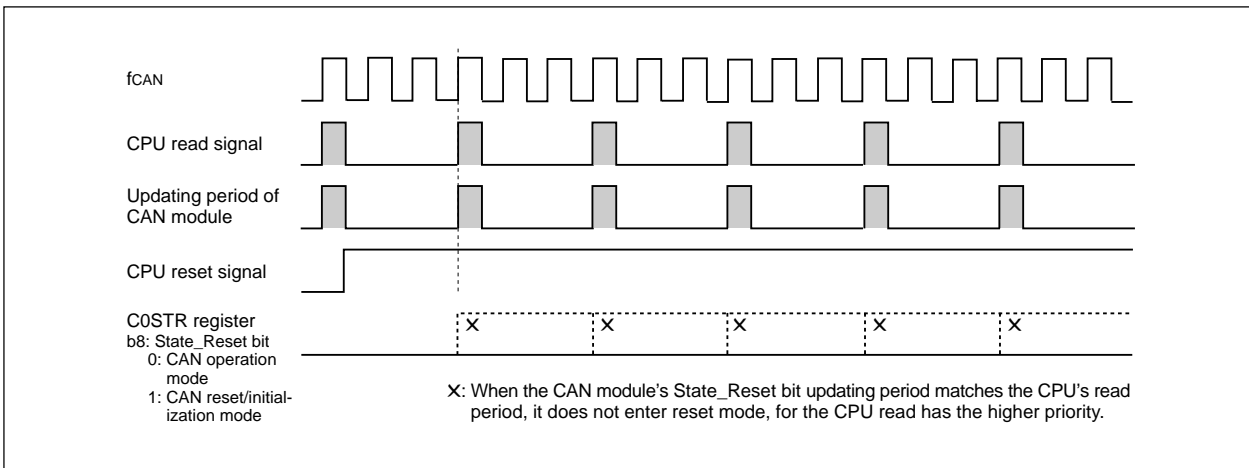

Figure 22.5 When Updating Period of CAN Module Matches Access Period from CPU
3. To prevent noise-induced device malfunction or latchup, as well as to reduce conversion errors, insert capacitors between the AVCC, VREF, and analog input pins (ANi, AN0i, AN2i(i=0 to 7), and AN3i(i=0 to 2)) each and the AVSS pin. Similarly, insert a capacitor between the VCC1 pin and the VSS pin. **Figure 22.5** is an example connection of each pin.
The CAN module on the M16C/29 Group updates the status of the C0STR register in a certain period. When the CPU and the CAN module access to the C0STR register at the same time, the CPU has the access priority; the access from the CAN module is disabled. Consequently, when the updating period of the CAN module matches the access period from the CPU, the status of the CAN module cannot be updated. (See **Figure 22.5**)